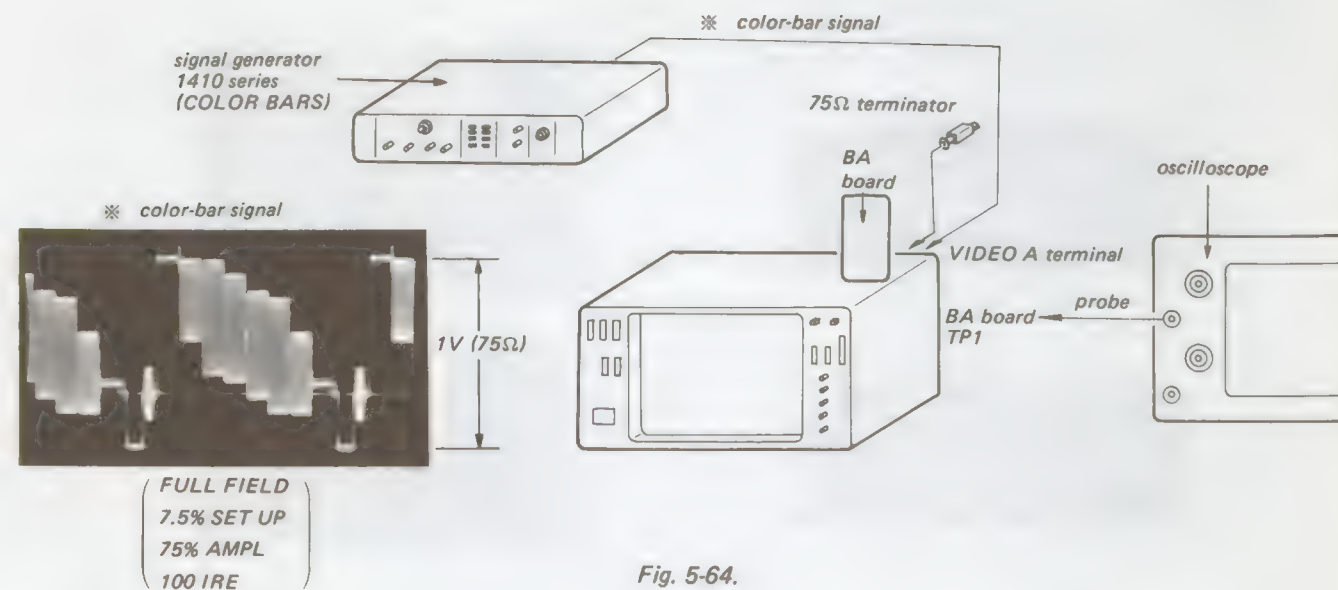

Fig. 5-64.
1. Complete the connections as shown in Fig. 5-64.